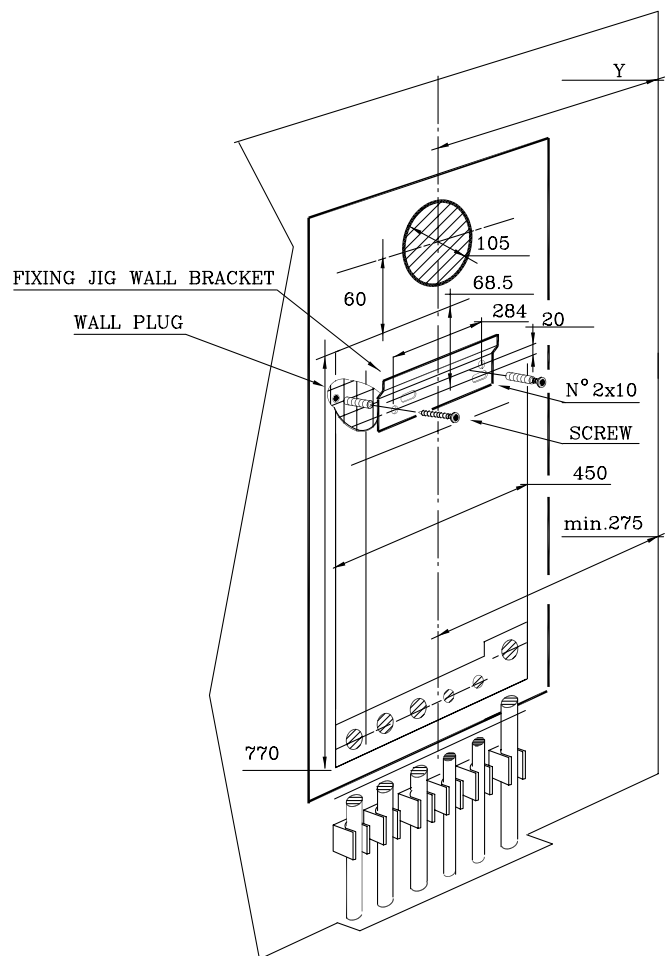

Fig. 16
- Fit the elbow header, positioning it towards the required direction (Fig 16).